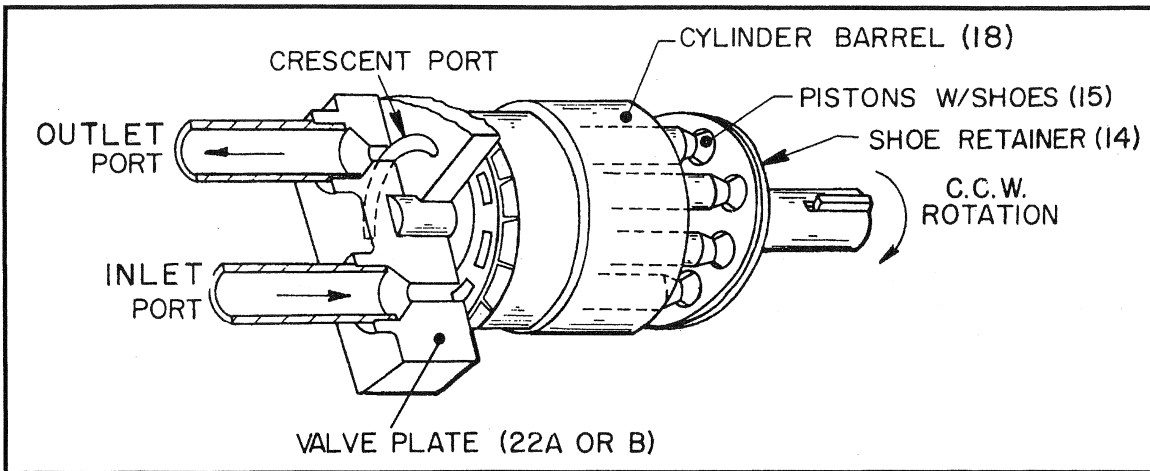

Figure 3. Type "PVWH" Pumping Mechanism (511783).
See Figure 3. Turning the driveshaft rotates the splined cylinder barrel (18) which contains pumping pistons with swivel shoes (15). A shoe retainer (14), backed up by a spring (17) loaded fulcrum ball (16), holds piston shoes against a washblock (11).